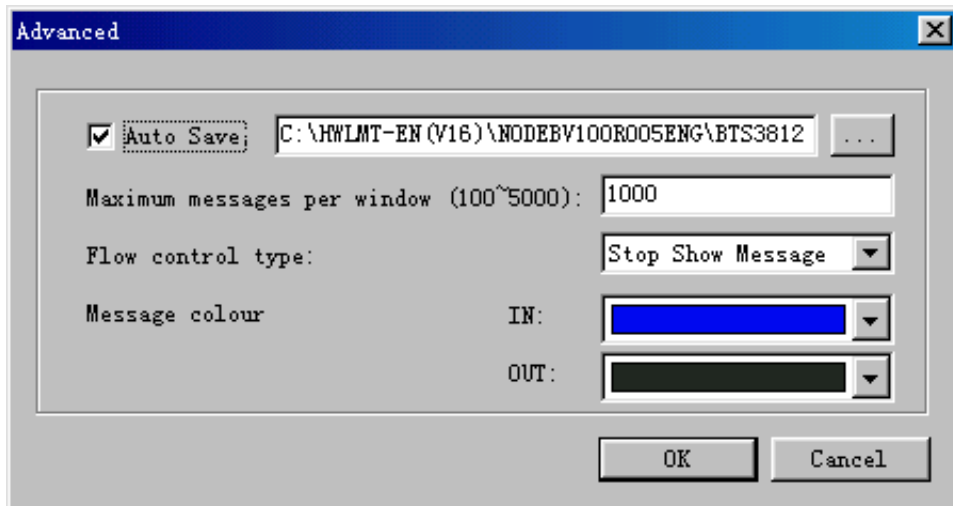

Figure 8-2 Advanced dialog box
The **Advanced** dialog box opens up as shown in Figure 8-2.
- 3) Select **Auto Save** in the **Advanced** dialog box as shown in Figure 8-2.